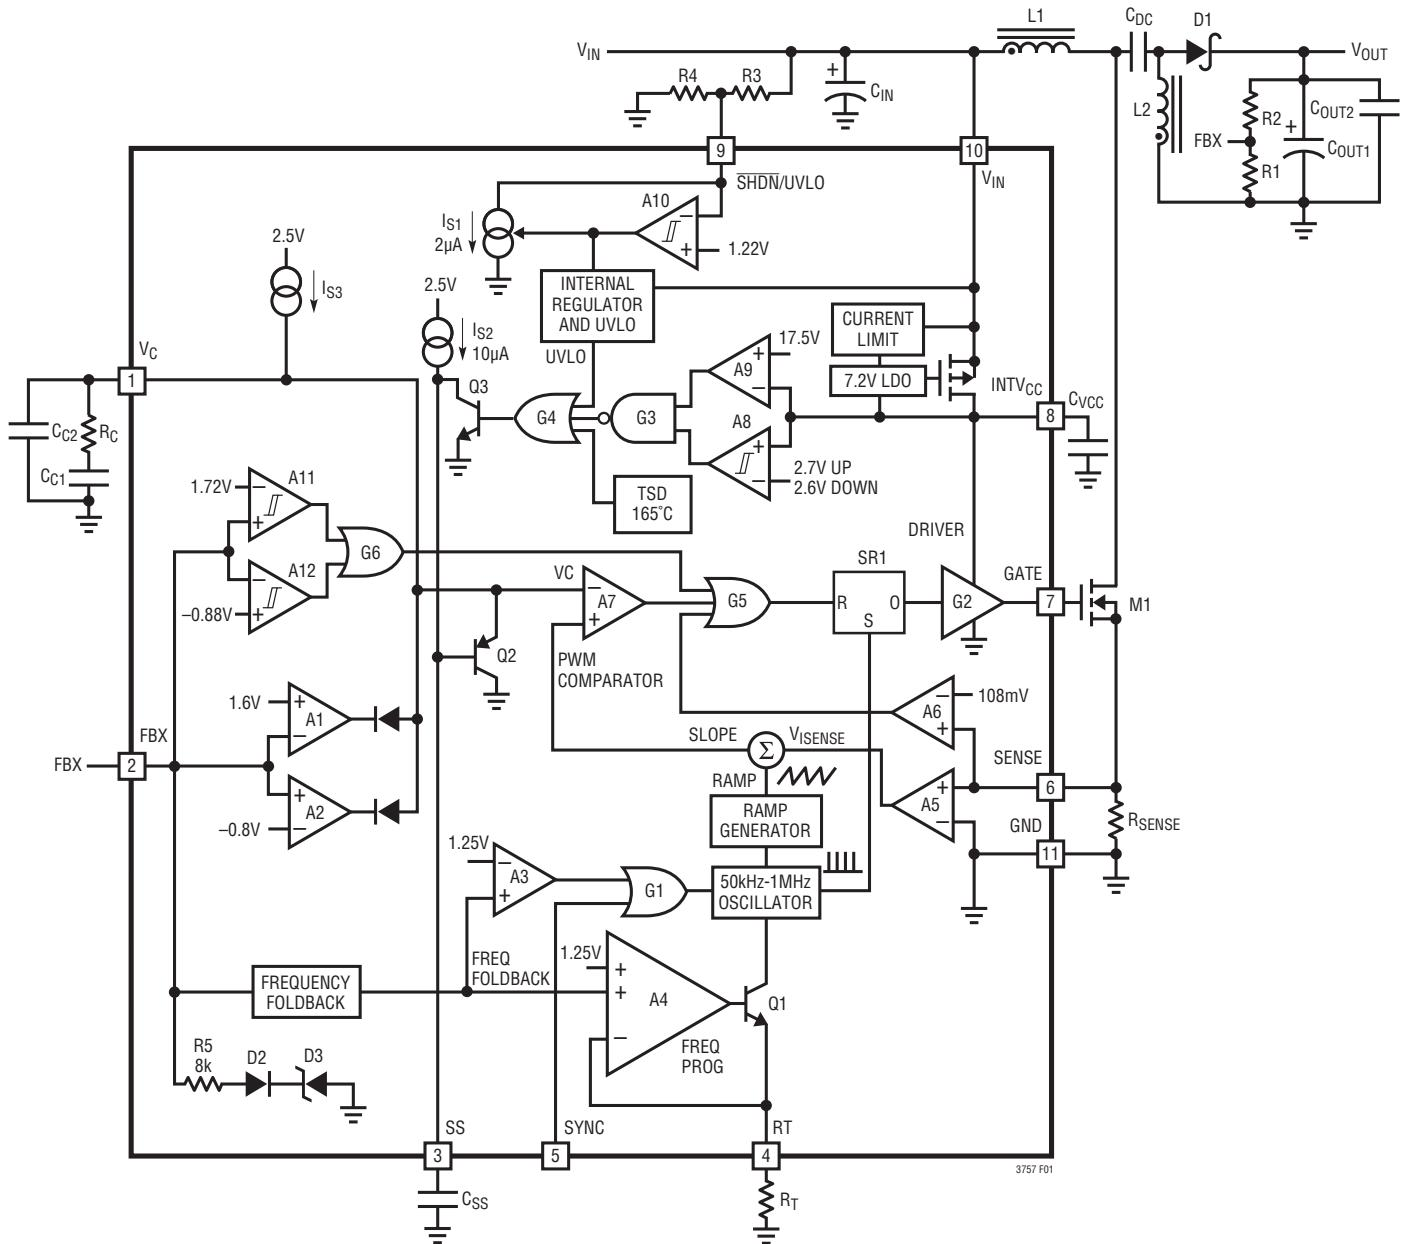

Figure 1. LT3757 Block Diagram Working as a SEPIC Converter
The LT3757 uses a fixed frequency, current mode control scheme to provide excellent line and load regulation. Operation can be best understood by referring to the Block Diagram in Figure 1.
The LT3757 is capable of generating either positive or negative output voltage with a single FBX pin. It can be configured as a boost, flyback or SEPIC converter to generate positive output voltage, or as an inverting converter to generate negative output voltage. When configured as a SEPIC converter, as shown in Figure 1, the FBX pin is pulled up to the internal bias voltage of 1.6V by a voltage divider (R1 and R2) connected from V_{OUT} to GND. Comparator A2 becomes inactive and comparator A1 performs the inverting amplification from FBX to V_C . When the LT3757 is in an inverting configuration, the FBX pin is pulled down to -0.8V by a voltage divider connected from V_{OUT} to GND. Comparator A1 becomes inactive and comparator A2 performs the noninverting amplification from FBX to V_C .
The purpose of this current is to allow the user to program the rising hysteresis. The Block Diagram of the comparator and the external resistors is shown in Figure 1. The typical falling threshold voltage and rising threshold voltage can be calculated by the following equations:
An internal, low dropout (LDO) voltage regulator produces the 7.2V INTV_{CC} supply which powers the gate driver, as shown in Figure 1. If a low input voltage operation is expected (e.g., supplying power from a lithium-ion battery or a 3.3V logic supply), low threshold MOSFETs should be used. The LT3757 contains an undervoltage lockout comparator A8 and an overvoltage lockout comparator A9 for the INTV_{CC} supply. The INTV_{CC} undervoltage (UV) threshold is 2.7V (typical), with 100mV hysteresis, to ensure that the MOSFETs have sufficient gate drive voltage before turning on. The logic circuitry within the LT3757 is also powered from the internal INTV_{CC} supply.
The choice of operating frequency may be determined by on-chip power dissipation, otherwise it is a trade-off between efficiency and component size. Low frequency operation improves efficiency by reducing gate drive current and MOSFET and diode switching losses. However, lower frequency operation requires a physically larger inductor. Switching frequency also has implications for loop compensation. The LT3757 uses a constant-frequency architecture that can be programmed over a 50kHz to 1000kHz range with a single external resistor from the RT pin to ground, as shown in Figure 1. The RT pin must have an external resistor to GND for proper operation of the LT3757. A table for selecting the value of R_T for a given operating frequency is shown in Table 1.
The output voltage (V_{OUT}) is set by a resistor divider, as shown in Figure 1. The positive and negative V_{OUT} are set by the following equations:
In the applications where V_{OUT} is pulled up by an external positive power supply, the FBX pin is also pulled up through the R2 and R1 network. Make sure the FBX does not exceed its absolute maximum rating (6V). The R5, D2, and D3 in Figure 1 provide a resistive clamp in the positive direction. To ensure FBX is lower than 6V, choose sufficiently large R1 and R2 to meet the following condition:
The LT3757 addresses this mechanism with the SS pin. As shown in Figure 1, the SS pin reduces the power MOSFET current by pulling down the V_C pin through Q2. In this way the SS allows the output capacitor to charge gradually toward its final value while limiting the start-up peak currents. The typical start-up waveforms are shown in the Typical Performance Characteristics section. The inductor current I_L slewing rate is limited by the soft-start function.
The optimum values depend on the converter topology, the component values and the operating conditions (including the input voltage, load current, etc.). To compensate the feedback loop of the LT3757/LT3757A, a series resistor-capacitor network is usually connected from the V_C pin to GND. Figure 1 shows the typical V_C compensation network. For most applications, the capacitor should be in the range of 470pF to 22nF , and the resistor should be in the range of 5k to 50k . A small capacitor is often connected in parallel with the RC compensation network to attenuate the V_C voltage ripple induced from the output voltage ripple through the internal error amplifier. The parallel capacitor usually ranges in value from 10pF to 100pF . A practical approach to design the compensation network is to start with one of the circuits in this data sheet that is similar to your application, and tune the compensation network to optimize the performance. Stability should then be checked across all operating conditions, including load current, input voltage and temperature.